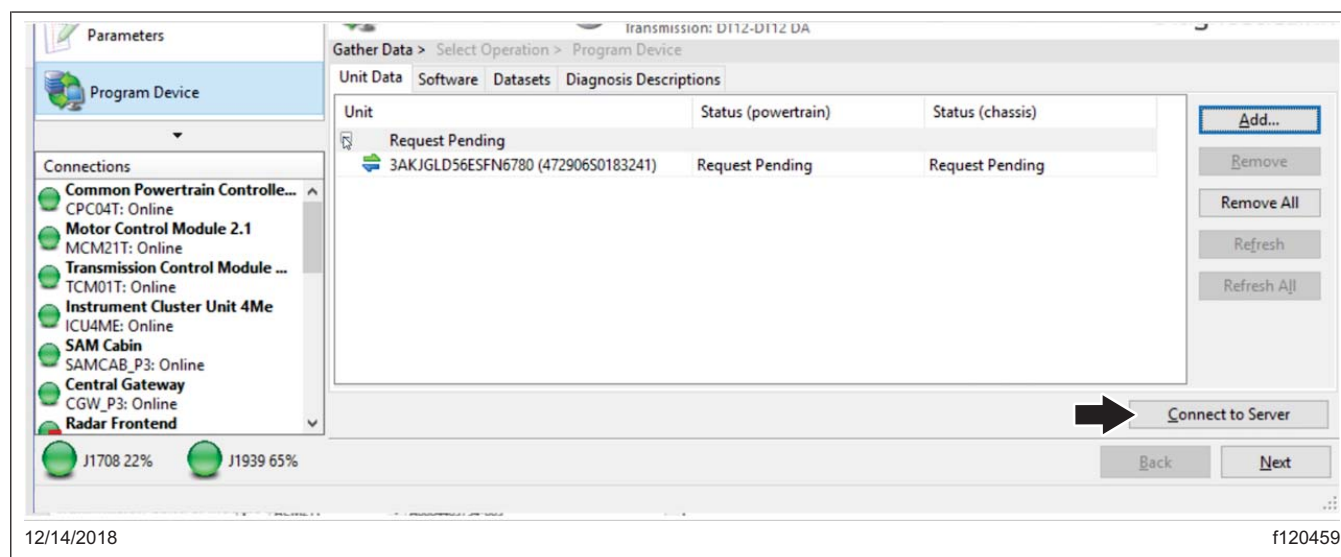

Fig. 8, Downloading Updated Unit Data
9. There should be a request pending status for the VIN. Click "connect to server" to download the updated unit data. See Fig. 8. The server will provide any new software available on the server as well as updated parameter sets for the new software, adjusted for the parameter set that was just uploaded from the vehicle.